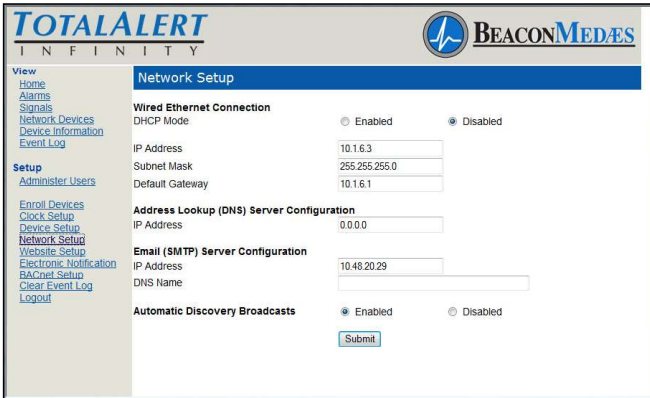

Figure 198: Network Setup Page
1. Click Network Setup to access Network setup page (Figure 198).